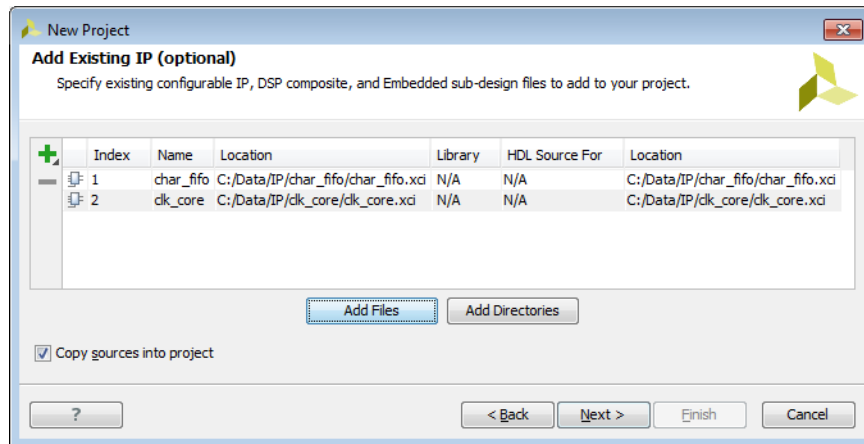

Figure 2-4: New Project Wizard—Add Existing IP Page
4. *Optional:* In the Add Configurable IP page (Figure 2-4), set the following options, and click **Next**:
- **Add Files:** Invokes a file browser so you can select Xilinx Core Instance (XCI) files, which are native to the Vivado Design Suite, a Core Container (XCIX) file, which is a single file representation for an IP, or CORE Generator core (XCO) files. You can also add Block Design files (BD) from the Vivado IP Integrator feature, or Mathworks Simulink project files (SLX or MDL) for DSP sub-designs.